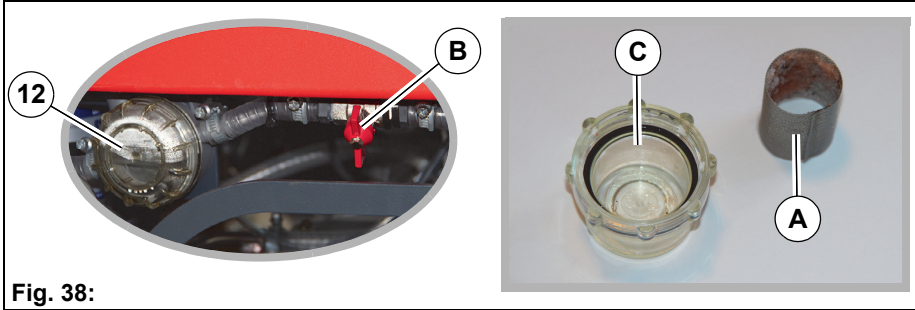

Fig. 38:
Check the filter sieve **Fig. 38-A** of the fresh water filter **Fig. 38-12** weekly and clean or replace it as required.
1. Close the ball cock **Fig. 38-B**.
2. Turn and remove the filter cover **Fig. 38-C**.
3. Remove the filter sieve **Fig. 38-A** from the filter housing and clean it under running water. Replace the filter sieve as required.